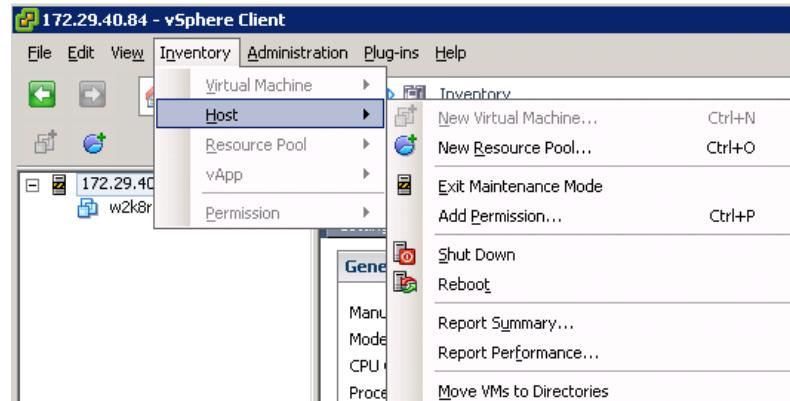

Figure 5-30. Exiting Maintenance Mode
1. Open vSphere and exit maintenance mode on the vSphere client (Figure 5-30).